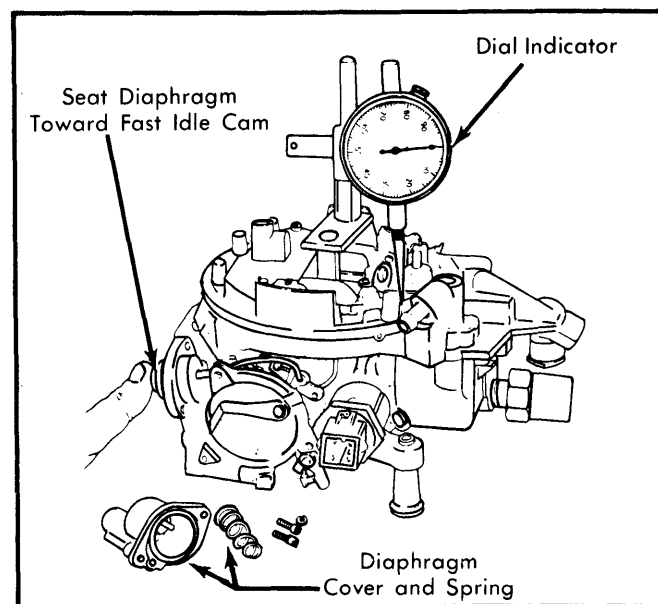

Fig. 8 Adjusting Choke Control Diaphragm (At CER 75°F Start Position)
11) Remove remaining portion of retaining screws from choke control diaphragm housing using small pliers. Manually seat choke control diaphragm assembly in direction of fast idle cam. See Fig. 8.